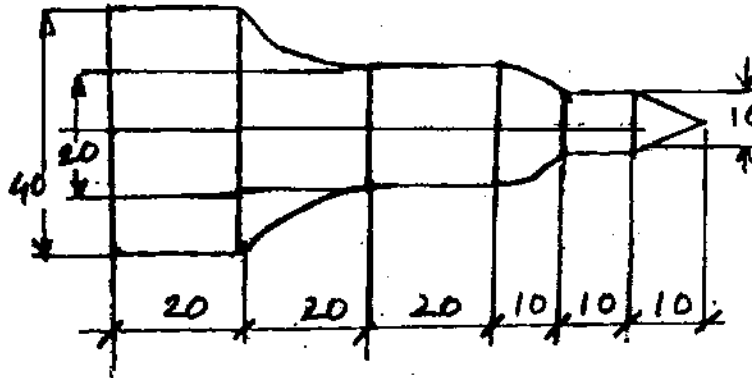

Fig. 9(b)
- (b) Prepare a complete CNC part program for manufacturing a component as shown in Figure 9(b). Explain the G-codes and M-codes used in it. Assume suitable data if necessary.